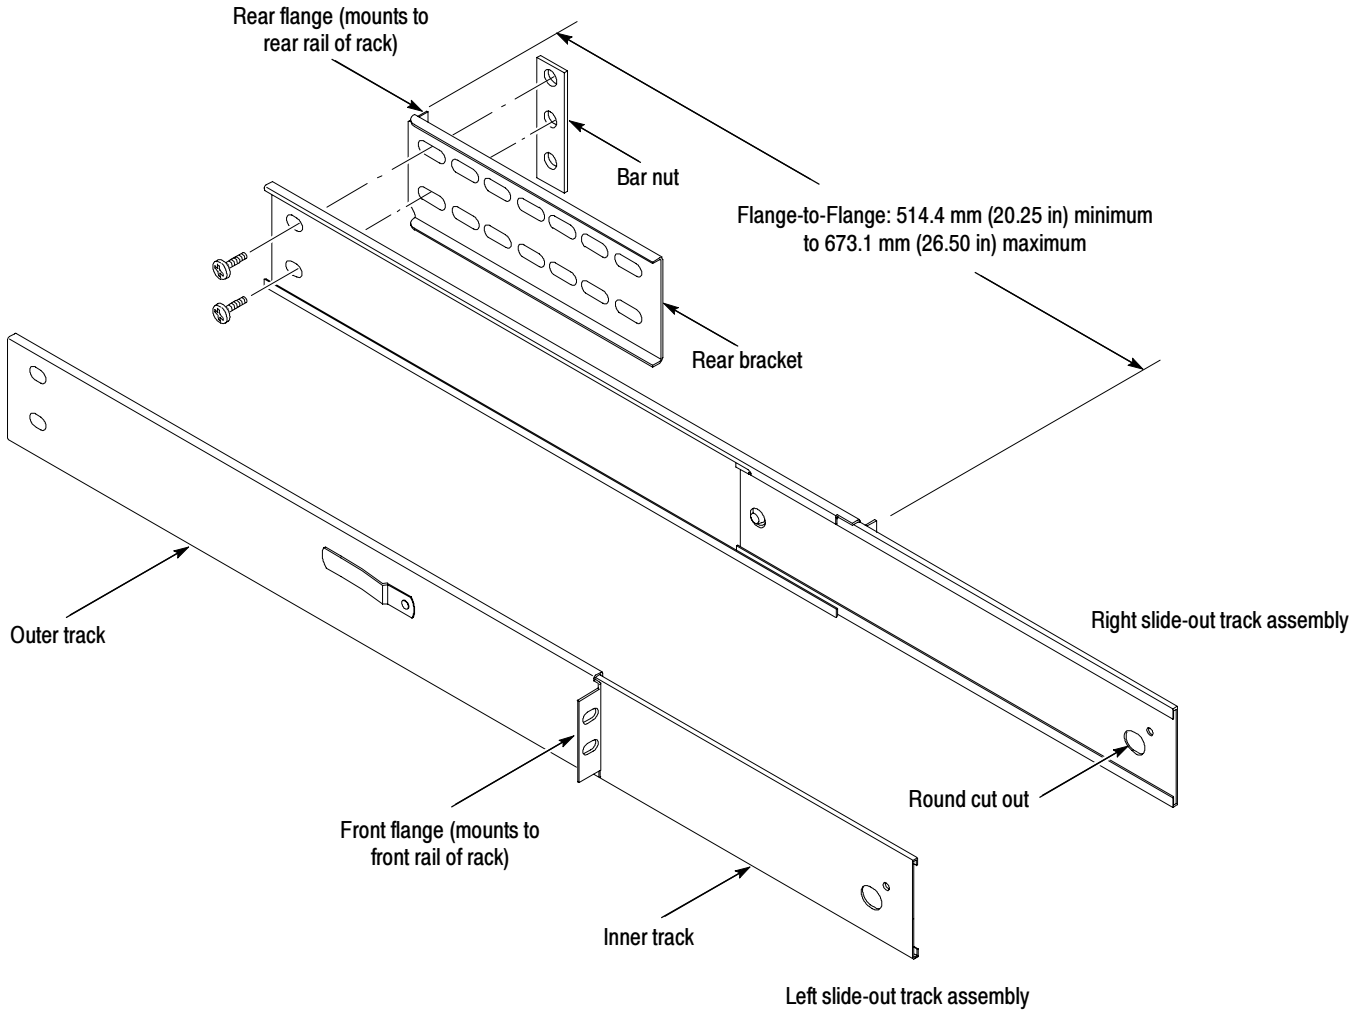

Figure 10: Assembly of slide-out track assemblies
- b. Align the rear bracket to the right slide-out track as shown in Figure 10. Note that the rear bracket has multiple pairs of mount-through holes. When aligning the bracket and track, be sure to select a pair of holes that mount the rear bracket so that the flange-to-flange distance matches the distance between the front rail and rear rail measured in step a.